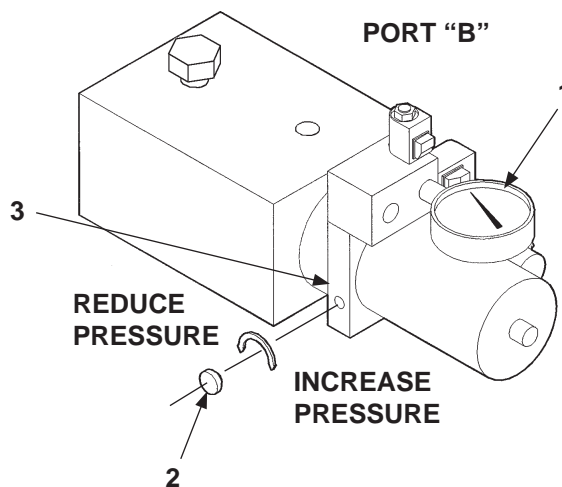

FIG. 42-1
4. Activate the **RAISE/LOWER** switch several times to verify that the pressure shown on the gauge remains at the proper setting (**FIG. 42-1**).